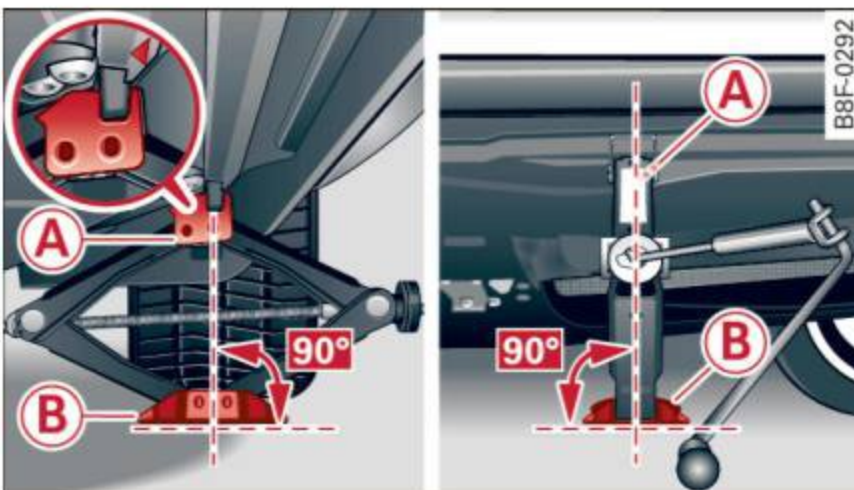

Fig. 178 Sill: positioning the vehicle jack
⇒ fig. 178 (A) covers the **notch** on the vehicle ⇒ ⚠ ⇒ ⚠.
- ▶ Align the vehicle jack so the jaw (A) covers the notch and the base plate (B) is flat on the floor. The base plate (B) must be *vertical* under the lifting point (A).